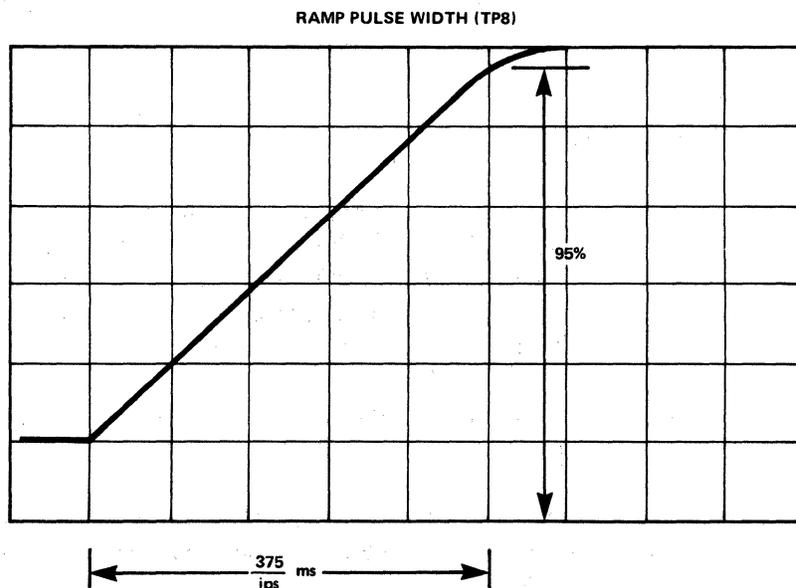

Figure 5-2. Forward Ramp Waveform
- Initiate a forward-stop tape sequence using either the Tape Transport Exerciser or maintenance switch SW1. Observe the oscilloscope display (see figure 5-2).